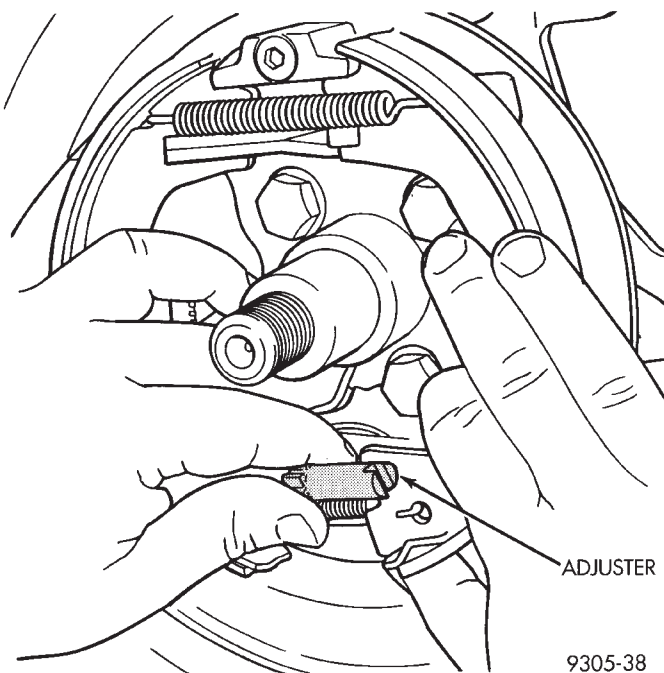

Fig. 2 Removing Adjuster Assembly
- (7) Turn parking brake, brake shoe adjuster wheel until adjuster is at shortest length.
- (8) Remove parking brake, shoe adjuster assembly from the parking brake shoe assemblies (Fig. 2).